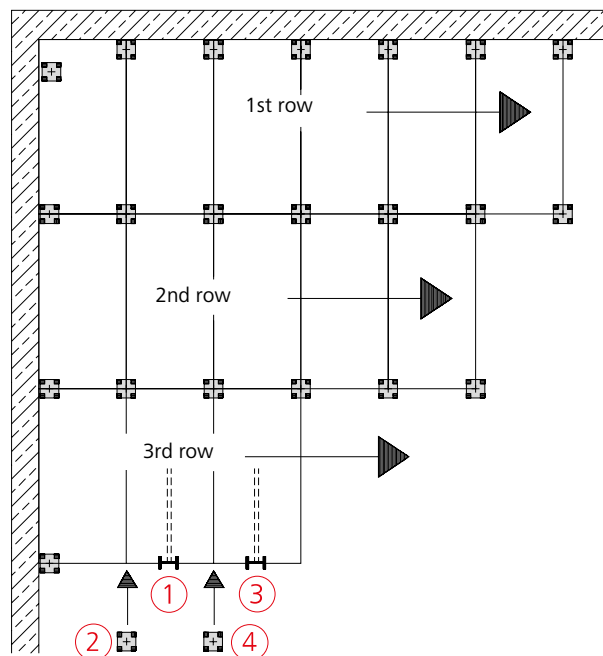

Fig. 21.1
- ① The panel is only temporarily supported by the assembly stick 340.
- ② A prop with MD prop head is placed under the corner of the panel and adjusted.
- ③ Hook in the next panel, swing it up with the assembly stick 340 and support it temporarily with the stick.
- ④ Erect the next prop with MD prop head and adjust it vertically. Now remove the first assembly stick 340 and continue as described under ③ (Figures 21.1 and 21.2).